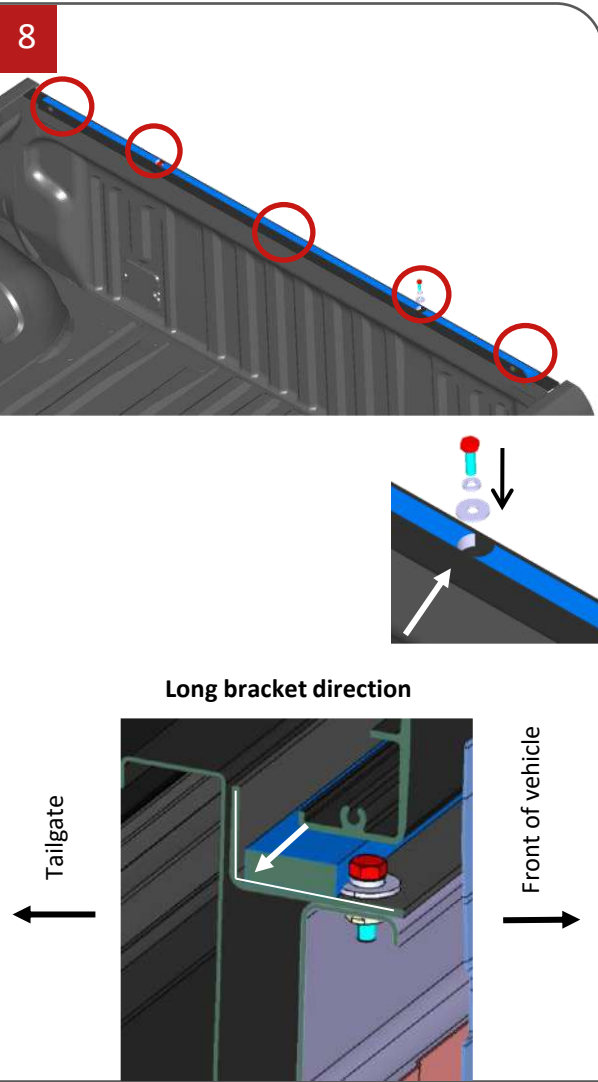

Figure 8
- **Direction of Long front bracket is shown in Figures 8 & 9**